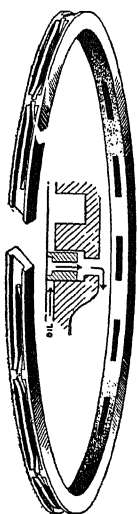

Fig. 8. Super-Drainoil Piston Ring
**Piston Rings.** Originally there were two types of rings which were considered good. However, the three rings shown in Figs. 8, 9, and 10 are the three different types of piston rings in common use today.